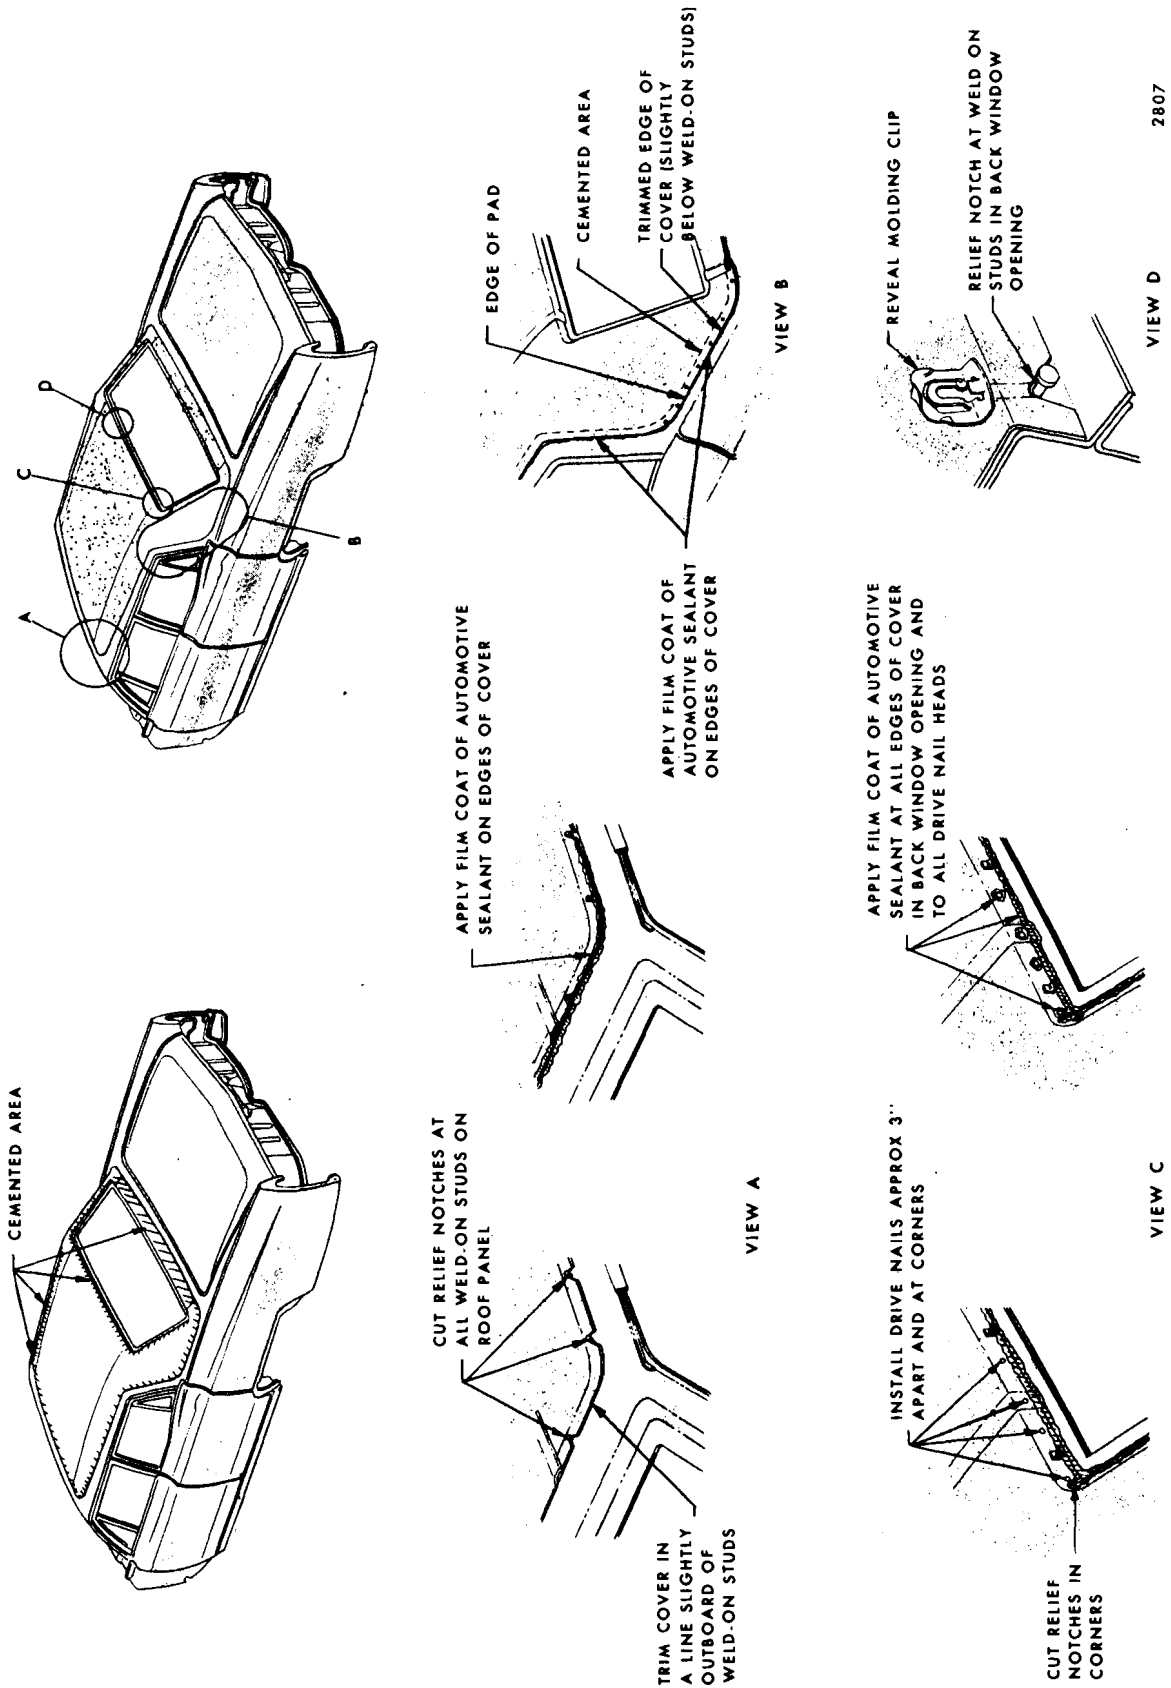

Fig. 12-2—Typical Fabric Roof Cover Installation with Pad and Roof Panel Moldings
9. Cut relief notches in cover at all weld-on studs and angle cuts as required in corners of back window opening. Apply cement to back window opening and cement cover in opening. In the event a reveal molding clip could not be removed, trim cover around clip and cement cover down behind clip (See Fig. 12-2).
11. Apply cement to one side of exposed roof panel where cover is attached (make certain cement overlaps pad approximately 1") and cement cover to cemented areas. Relief notches must be cut in cover at weld-on studs on roof panel (View "A", Fig. 12-2).
13. Install drive nails across top and down sides of back window opening approximately 3" apart and 2 in each upper corner. (View "C", Figure 12-2).
18. Trim fabric cover in a line along retainers. DO NOT DAMAGE PAINT FINISH. At front corners, raise cemented edge of cover and using scissors or sharp knife cut radius so roof panel moldings cover cut edge. Recement fabric cover to roof panel. Remove masking tape from roof panel (View "A", Fig. 12-2)
20. Apply a "film" coat of silicone sealant such as Dow Corning Automotive Sealant, General Electric RVP Sealant, or equivalent to the edges of cover in back window opening, at belt area and at edges under roof panel moldings. Make certain edge of material around all reveal molding clips that were not removed, is also sealed (Fig. 12-2).